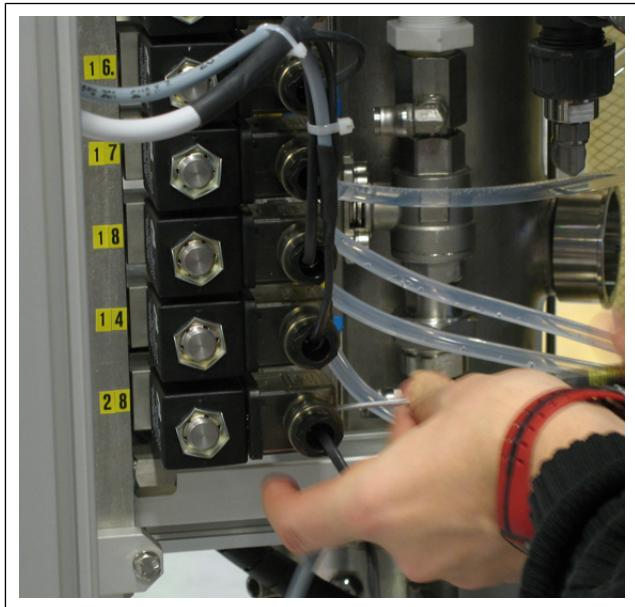

Fig. 20. Adding a solenoid valve for water, and attaching its cap.
3. Attach the valve cap and tighten with a screw (Fig. 20).